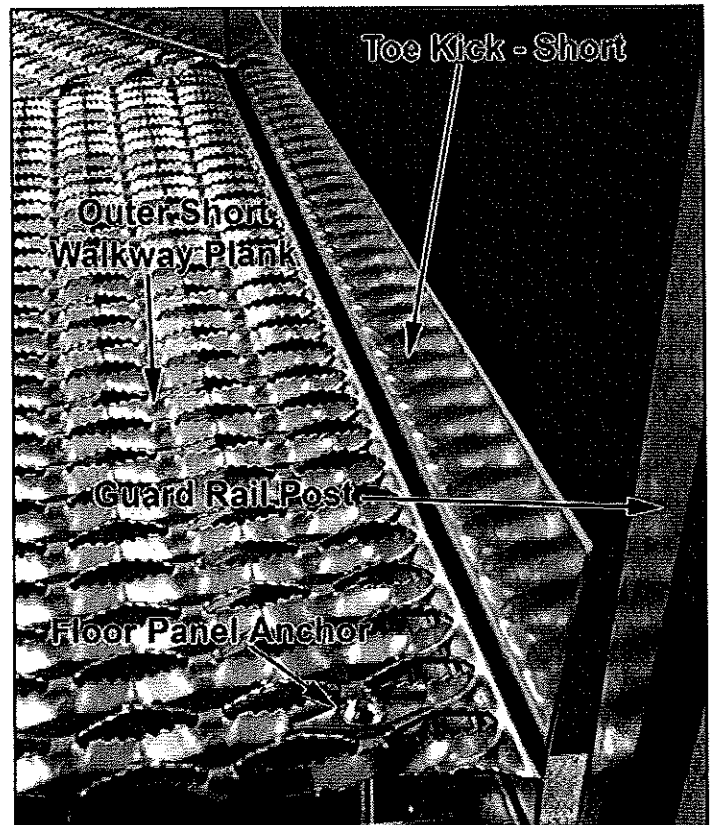

Figure 15
- Place the (1) toe kick-short onto the (2) walkway plank supports just to the right of the ladder. There is a hole at the outside edge of each walkway plank support where the Toe Kick is to be bolted.
- Now bolt the (7) toe kick long #475712 around the outside edge of the walkway panel supports.
- Place the inner and outer short walkway planks onto the (2) walkway plank supports to the right of the ladder. Use (2) floor panel anchors, 5/16-18 x 3" (7.0 x 76mm) carriage bolts, flatwashers, and whiz locknuts at each end of the planks. Anchors under bolt head and flatwashers next to the locknut. Use slotted holes in plank support. Now do the same thing with the inner and outer walkway planks-long, working around screen section to the ladder. See Figure 15.